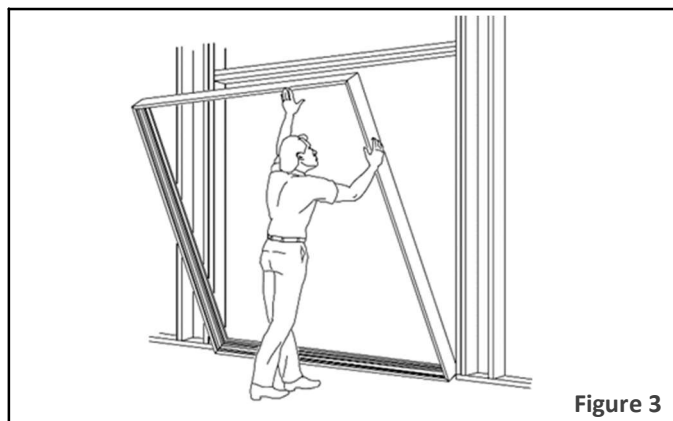

Figure 3
2.3 Center the door frame within the rough opening leaving equal clearance at both jambs (figure 3).